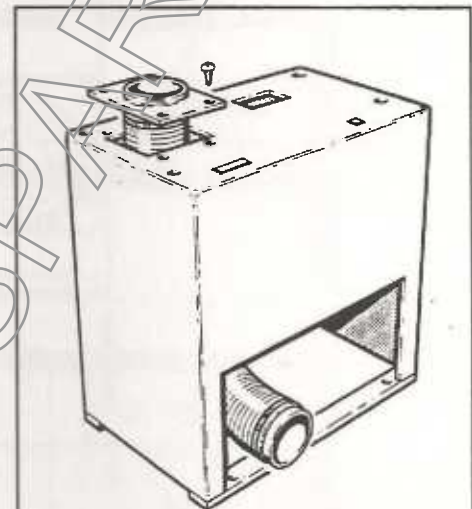

Fig. 2.
- B Place flexible hose through aperture in cabinet base and secure using 4 self tapping screws supplied (see Fig.2).